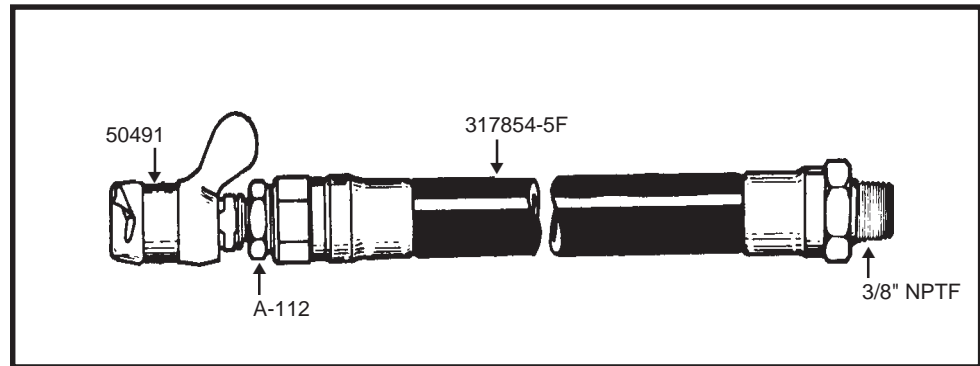

Figure 8: Hose and Coupling Assembly (for Model 7149-D4)
3. Assemble hose 317854-5F, bushing A-112 and coupling assembly 50491 as shown in Figure 8.